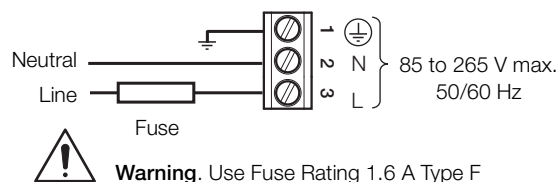

Fig. 4.1 Power Supply Connections
- The transmitter is not fitted with a switch therefore a disconnecting device such as a switch or circuit breaker conforming to local safety standards must be fitted to the final installation. It must be fitted in close proximity to the instrument within easy reach of the operator and must be marked clearly as the disconnection device for the transmitter – see Fig. 4.1.